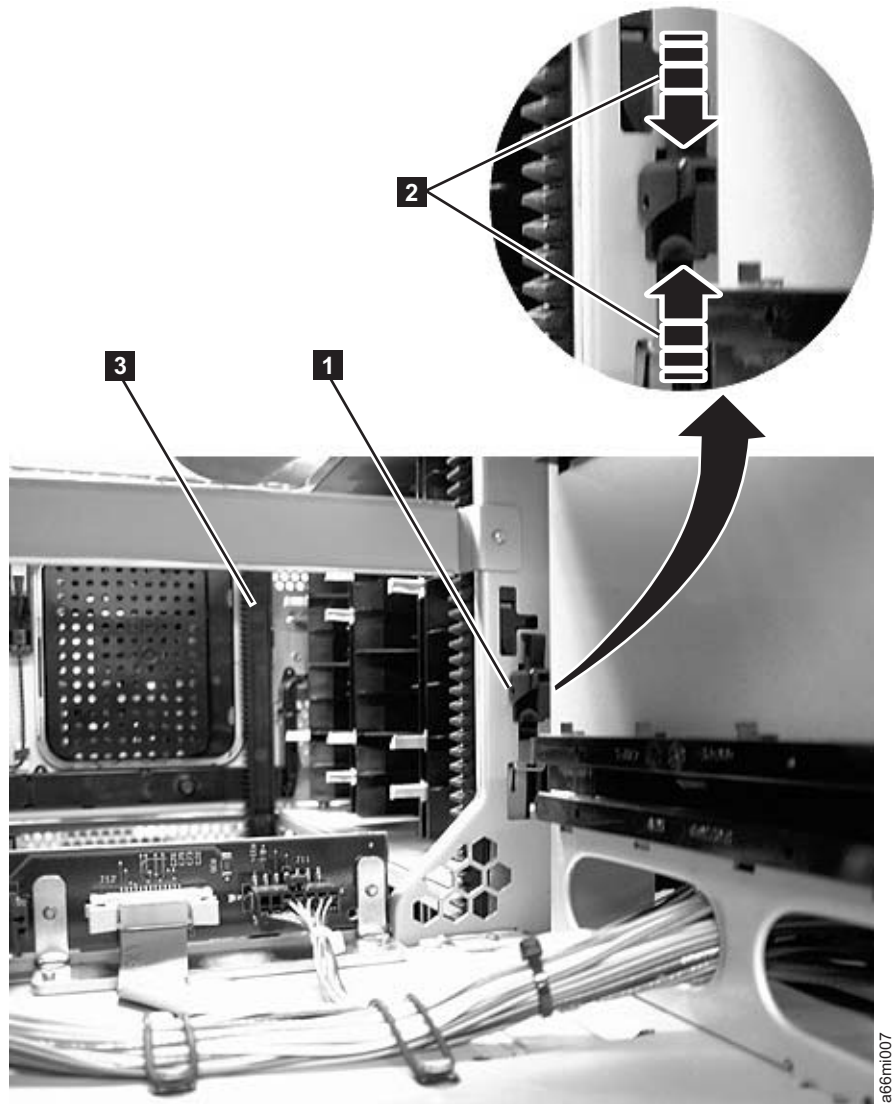

Figure 8-8. Gear racks and gear rack locking mechanism
12. Engage the rear (**1** in Figure 8-8) and front (**3** in Figure 8-8) gear racks in the control module. While pinching the gear rack locking mechanism (**2** in Figure 8-8), push the gear rack down until it locks in place and no gaps appear between the front and rear gear racks in the control module and expansion module.
5. Raise the gear racks (Refer to Figure 8-8 on page 8-12).
- d. Lower the gear racks. (Refer to Figure 8-8 on page 8-12).